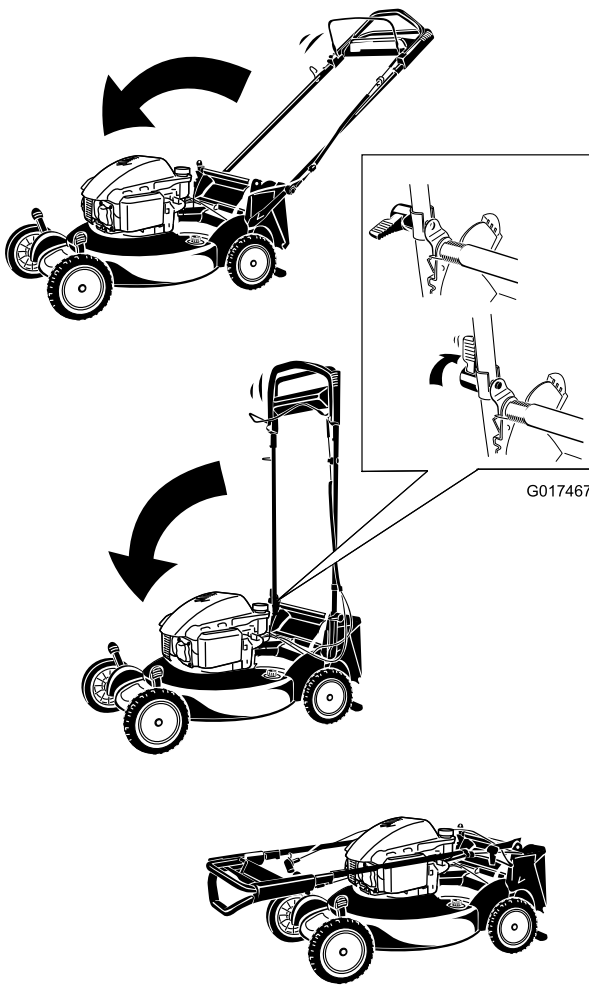

Figure 43
1. Rotate the handle forward (Figure 43).